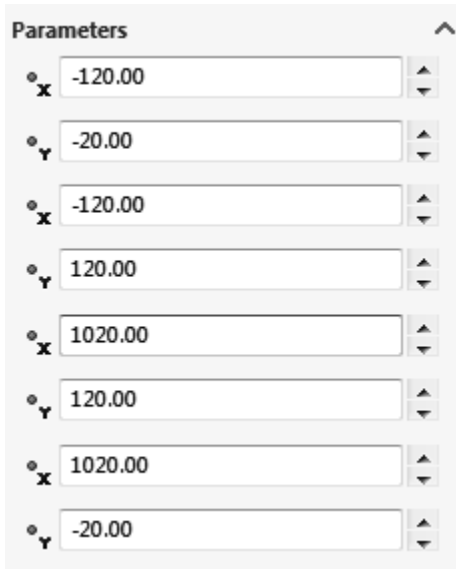

Figure 2.4 Dimensions of second larger rectangle
- Repeat steps 2 and 3 but create a larger rectangle outside of the first rectangle. Dimensions are shown in figure 2.4.